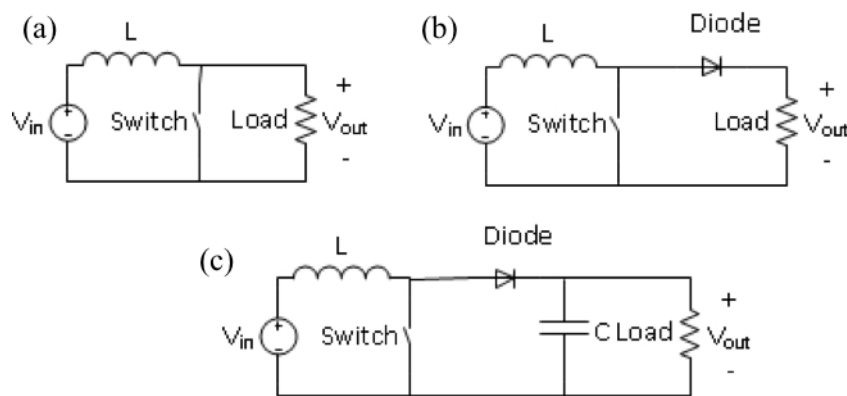

Figure 2. Boost converter circuit
5. Build the circuit shown in Fig. 2 by using the lower MOSFET, upper diode, and BB magnetic board.
3. Make sure the switch array for MOSFET selection (lower MOSFET), PWM selection, and other settings are correct to achieve a functional circuit as in Fig. 2.